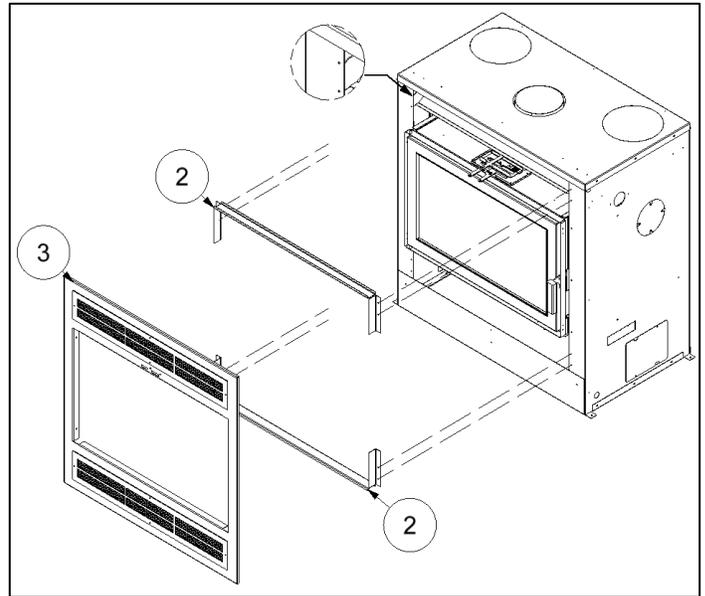

Figure 3-11: Traditional Surround Installation
2. Align the bottom front support bracket (Item 2) to the intake opening and fasten it in place (Figure 3-11).
3. Align the top front support bracket (Item 2) to the outtake opening and fasten it in place (Figure 3-11).